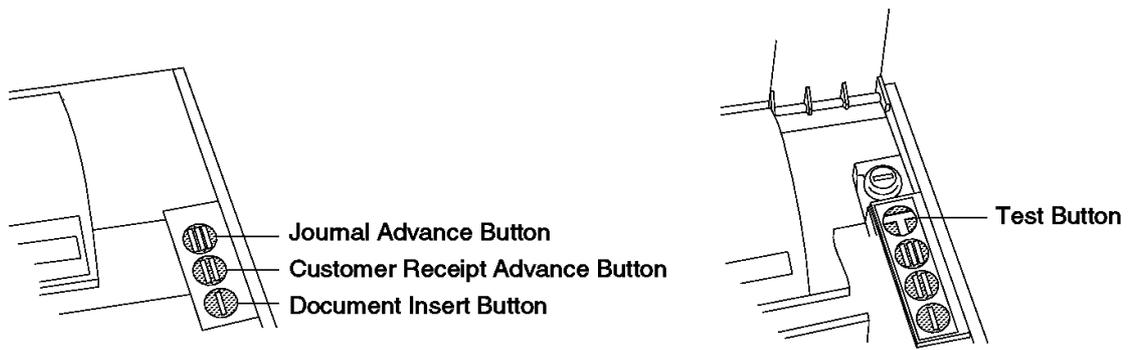

Figure 5-1. POS Printer Buttons - Models 1 and 2
5. Press the **II** button to advance the paper at the customer receipt station. See Figure 5-1.